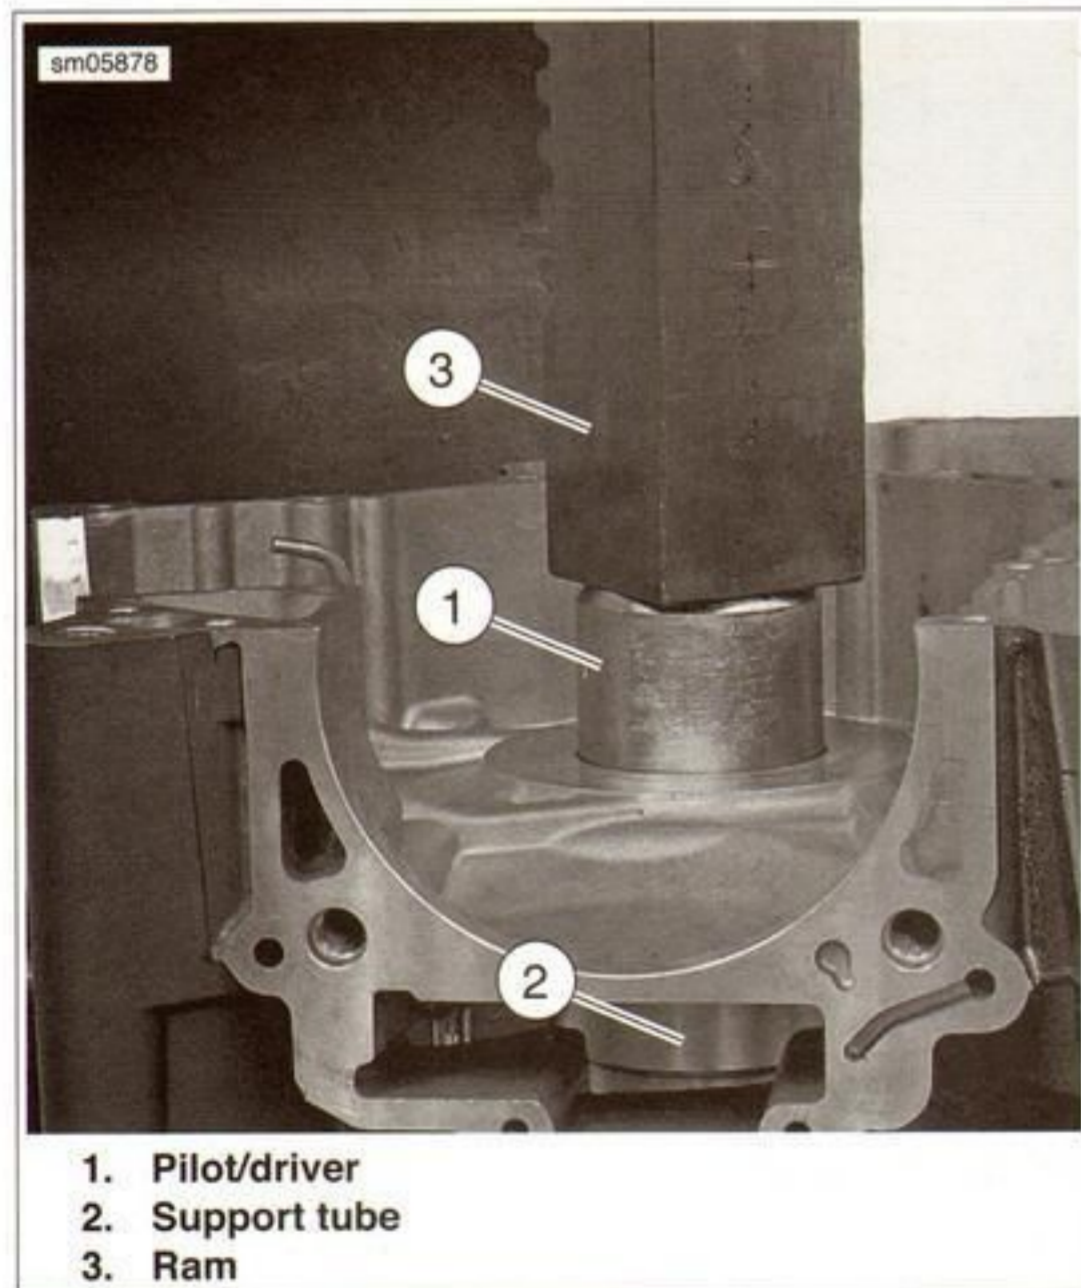

Figure 3-183. Main Bearing Remover/Installer Driver B-49055-3
2. See Figure 3-183.
4. Place support tube (2) on hydraulic press table with the "A" end up. Note that the sides of the support tube are stamped to be certain of proper orientation.
6. Slide pilot/driver (1) through bearing into support tube.
7. Center pilot/driver under ram (3) of press. Apply pressure to pilot/driver until bearing is free. Discard bearing.